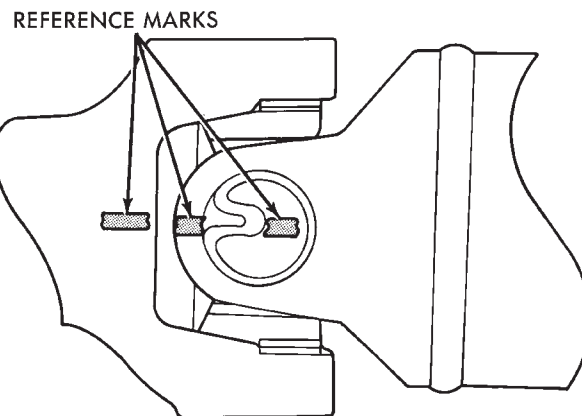

Fig. 13 Reference Marks on Yokes
- (1) Position the propeller shaft with the yoke reference marks aligned (Fig. 13). Install the propeller shaft.